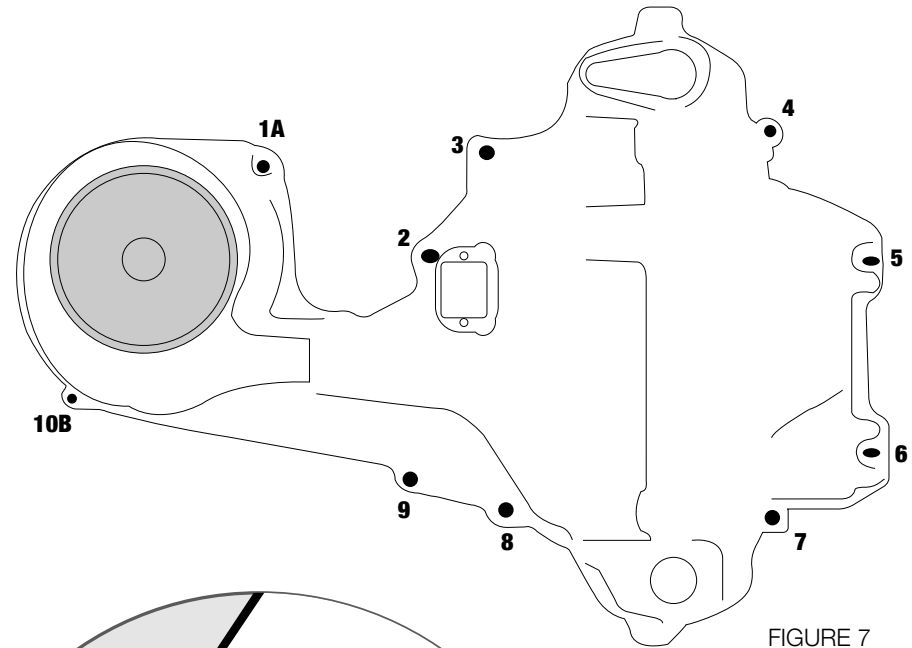

FIGURE 7
Located on the engine side of the firewall, remove Ten (10) bolts around the perimeter of the A/C case housing (see Figure 7). Remove the housing (Discard).